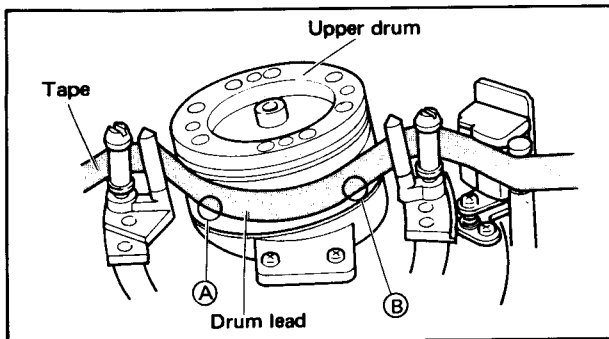

Fig. 4-37 Drum lead check-1
Confirm absence of damage to the tape at points (A) and (B) as shown in Fig. 4-37 and absence of contact noise between head tips and tape edge.